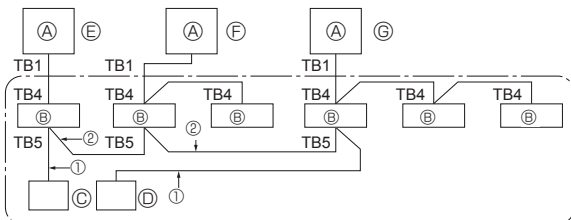

Fig. 9-1
9. System control (Fig. 9-1)
- ① SW 1 - 3 ~ 6 ON OFF 3 4 5 6
② SW 1 - 3 ~ 6 ON OFF 3 4 5 6
③ SW 1 - 3 ~ 6 ON OFF 3 4 5 6
- ④ Outdoor unit
⑤ Indoor unit
⑥ Master remote controller
⑦ Subordinate remote controller
⑧ Standard 1:1 (Refrigerant address = 00)
⑨ Simultaneous twin (Refrigerant address = 01)
⑩ Simultaneous triple (Refrigerant address = 02)